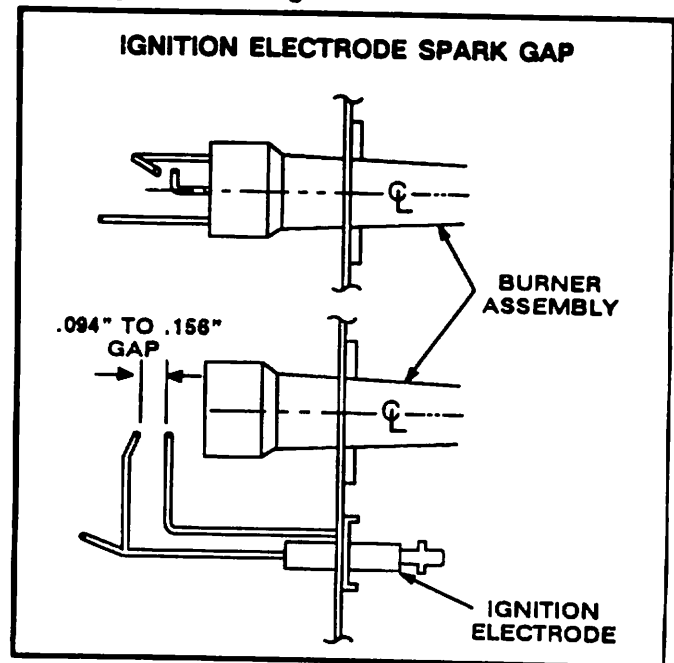

FIGURE 17
- 2- The spark gap on the Ignition electrode must be $1/8" \pm 1/32"$. The electrode assembly can be removed from unit by removing two screws securing the electrode assembly and sliding it out of unit. The gap can be checked using properly sized twist drills or feeler gauges. Refer to figure 17.